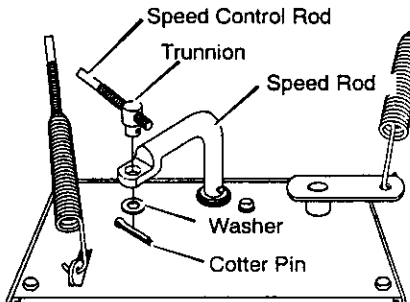

Figure 34
1. Remove washer and cotter pin connecting trunnion nut to speed rod. See Figure 34.